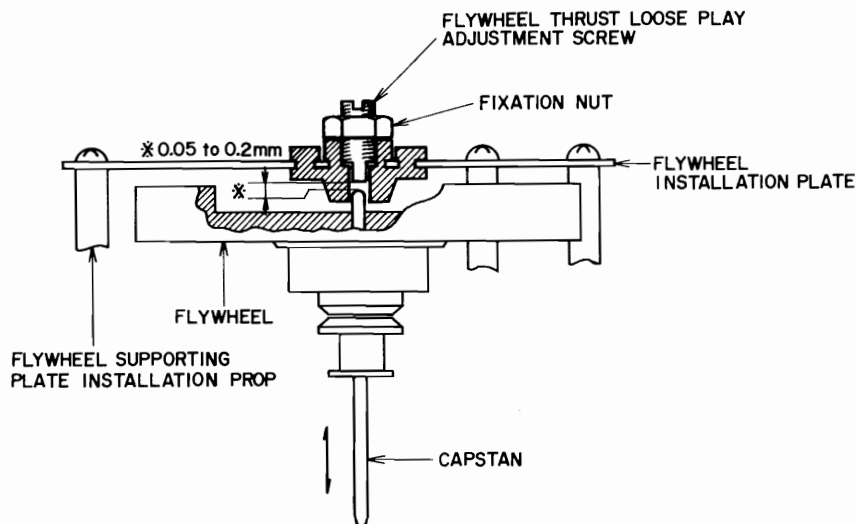

Fig. 10 Flywheel Thrust Loose Play Adjustment
- 2) From Serial No. 20420-0001 (Refer to Fig. 10)